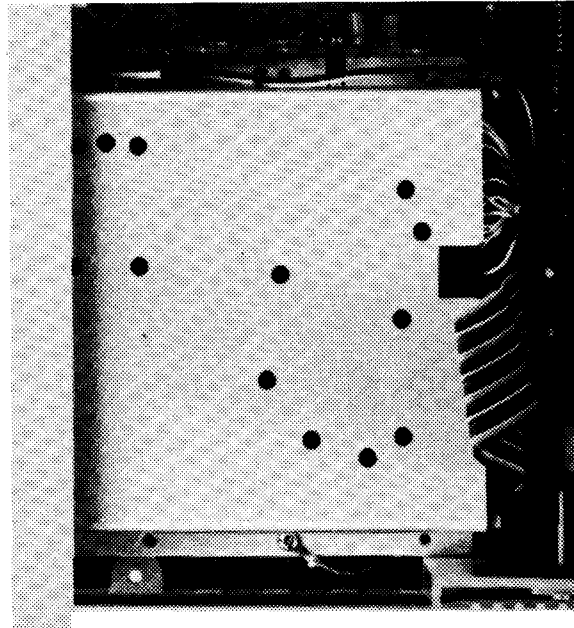

Figure 4-6. Disc Drive Screws
5. Remove the six screws securing the right-hand disc drive mechanism shown in Figure 4-6.
7. Remove the four screws securing the left-hand disc drive mechanism shown in Figure 4-6.